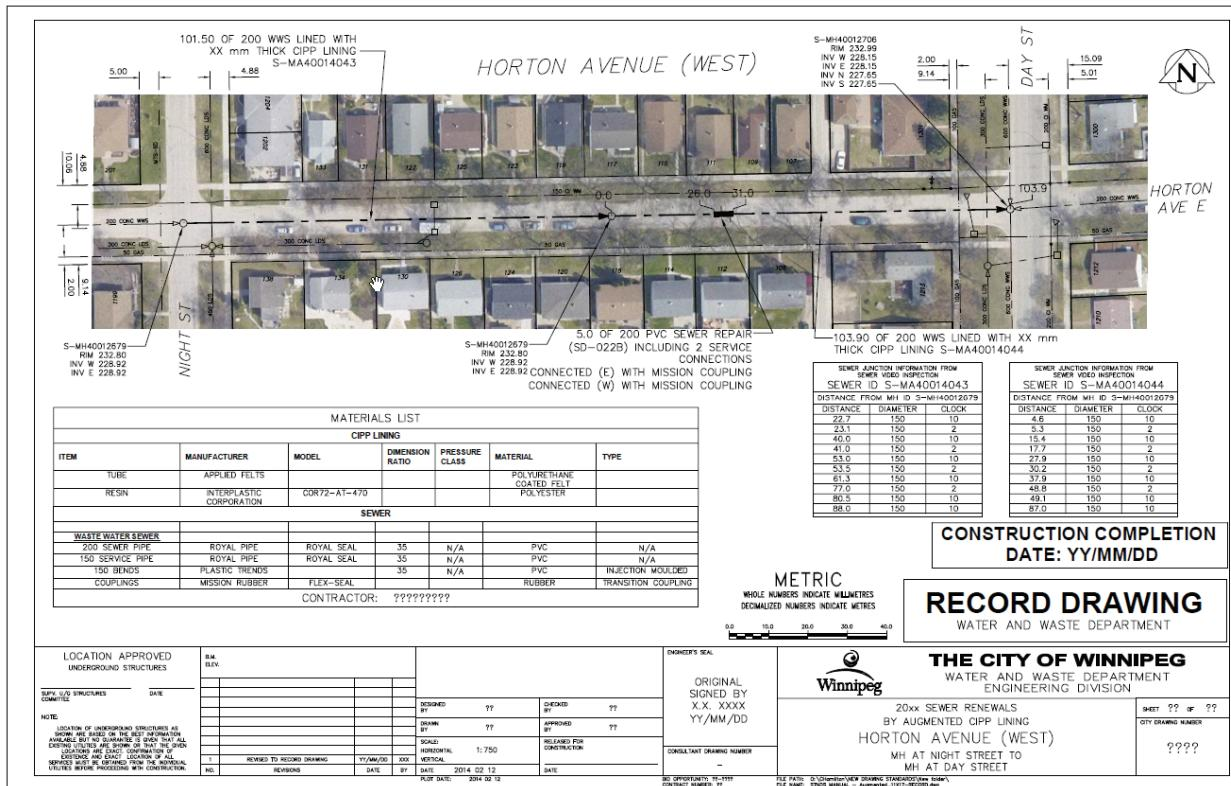

Figure 41
- Type of liner used and Manufacturer (**Please see figure 41 in section 4.2.4 11" x 17" Sewer Sheet Record Drawings**)